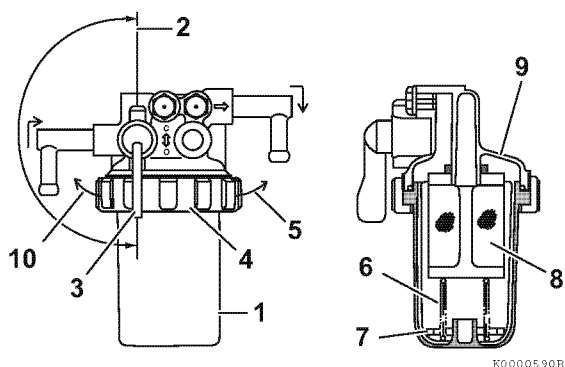

Figure 5-14
1. Position an approved container under the cup (1, **Figure 5-14**) of the fuel filter/water separator to collect the contaminants.
2. Close (2, **Figure 5-14**) the fuel cock (3, **Figure 5-14**).
3. Turn the retaining ring (4, **Figure 5-14**) to the left (10, **Figure 5-14**).
4. Carefully remove the cup (1, **Figure 5-14**) and pour the fuel into an approved container and dispose of properly. Hold the bottom of the cup with a shop towel to prevent the fuel from dripping. Wipe up any spills immediately.
5. Keep the retaining spring (6, **Figure 5-14**) and float (7, **Figure 5-14**) handy for reassembly.
6. Remove the element (8, **Figure 5-14**) by pulling it down.
10. Put the float (7, **Figure 5-14**) and retaining spring (6, **Figure 5-14**) inside the cup.
11. Reinstall the cup to the mounting flange (9, **Figure 5-14**) and turn the retaining ring (4, **Figure 5-14**) to the right (5, **Figure 5-14**). Hand-tighten only.
12. Open the fuel cock (3, **Figure 5-14**).